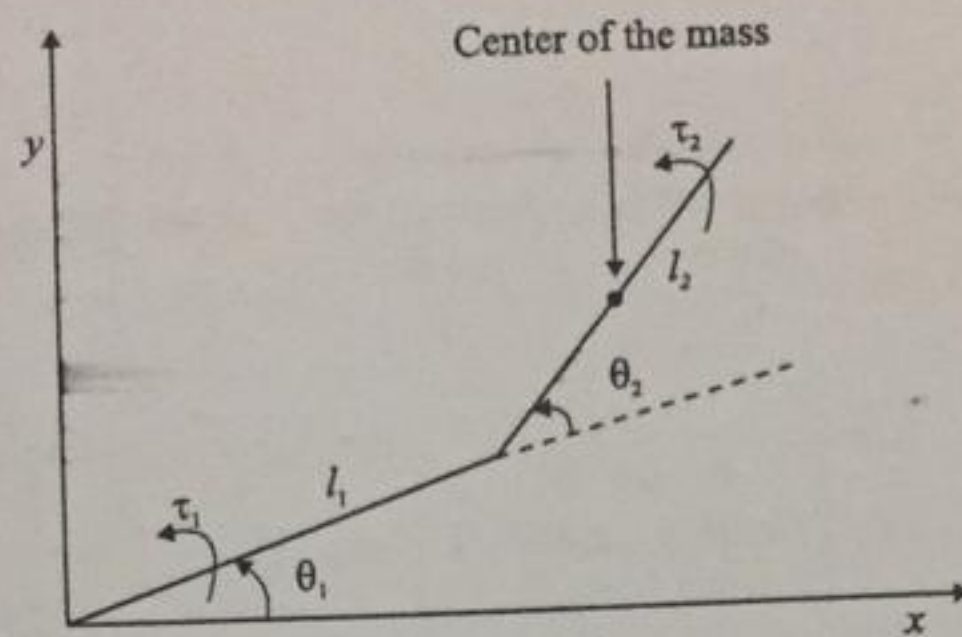

Fig. Q1(c)
- (c) Fig. Q1(c) shows a two-link planar elbow robotic arm, where the mass of link k is denoted by m_k . The joint variable and generalized force vector are given as $q = [\theta_1 \ \theta_2]^T$, $\tau = [\tau_1 \ \tau_2]^T$, respectively. For this robotic arm configuration, determine its dynamics using Lagrange-Euler method. [12 Marks]